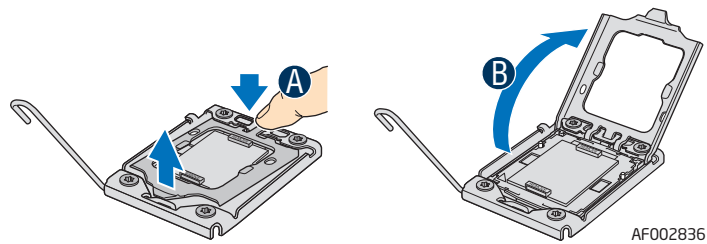

Figure 11. Opening the Load Plate
11. Push the rear tab with your finger tip to bring the front end of the load plate open slightly (see letter “A” in Figure 11).
12. Open the load plate (see letter “B” in Figure 11).